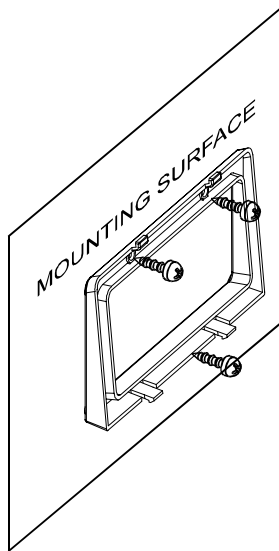

Figure 7b
2. Drill 3 holes on mounting wall and insert 3 screws into the bracket slots then tighten screws to secure bracket (see Figure 7b).